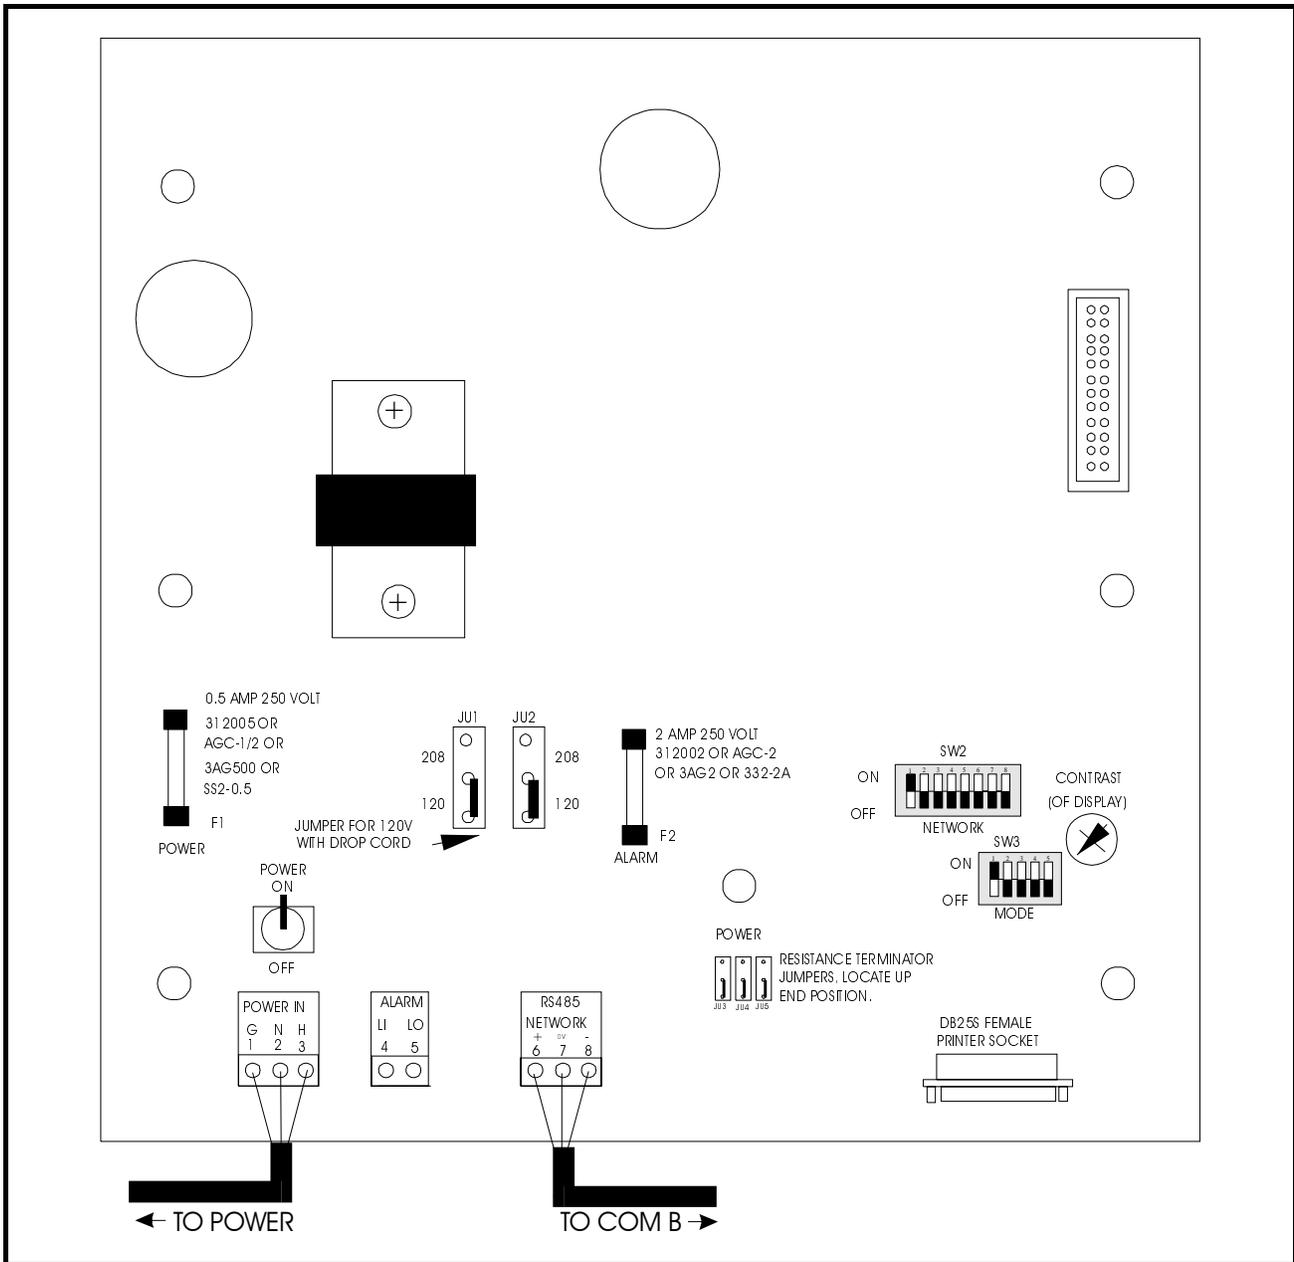

Figure 4 - 485 Alarm Panel Board
If 120VAC power is being used, set jumpers JU1 and JU2 to the DOWN position as shown in **Figure 4** on page 6. If 208VAC power is being used, set jumpers JU1 and JU2 in the UP position.
Switch rocker #2 on SW3 to the DOWN position as shown in *Figure 4*.
Rockers 6 and 7 on switch SW2 on the 485 Alarm Panel determines the baud rate at which alarm messages will be received across the COM B network. The 485 Alarm Panel can only communicate at 4800 baud; therefore, both switches 6 and 7 must be set to the DOWN position as shown in *Figure 4*.
2. Locate the Mode switch on the 485 Alarm Panel board (labelled SW3). Switch rocker #1 on SW3 to the UP (ON) position as shown in *Figure 4*.
The red SYSTEM DATA TO light, shown in Figure 4, flashes when data are being transmitted to a CPC controller or additional bus amplifier. If no data are being transmitted, the green light remains illuminated. These lights are associated with the RX output of each SYSTEM PORT.
The red SYSTEM DATA FROM light, shown in Figure 4, flashes when data are being received from a CPC controller or additional Bus amplifier. If no data are being received, the green light remains illuminated. These lights are associated with the TX input of each SYSTEM PORT.